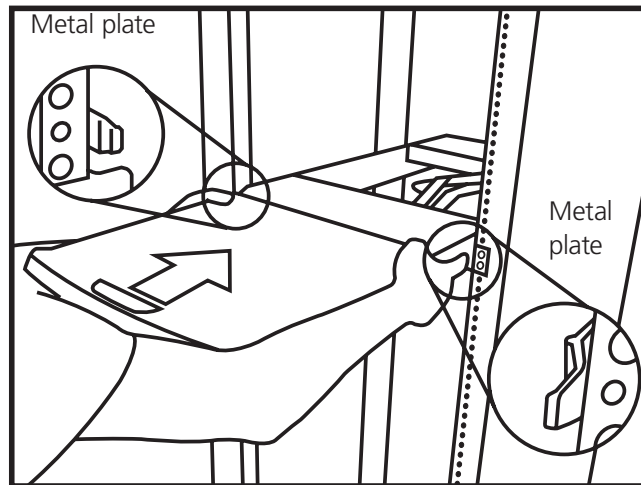

Figure 4-8. Closing the console.
3. Press the two metal plates down together and push the console back slowly and evenly. See Figure 4-8.